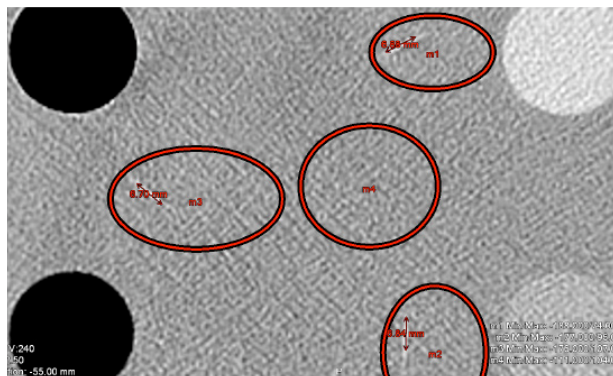

FIGURE 6.
- Since the ends of the slice thickness ramp projections are hard to identify, it is recommended that the user adjust back the window and level to see if the right ends were selected (Figure 6).